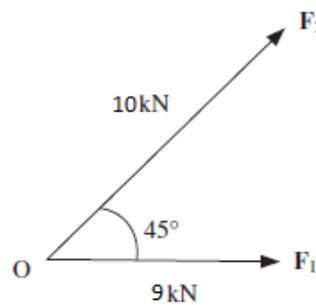

Figure Q3b: Object O subject to forces.
- b) **Figure Q3b** shows an object O subject to forces. Find the resultant force R in terms of magnitude and angle.